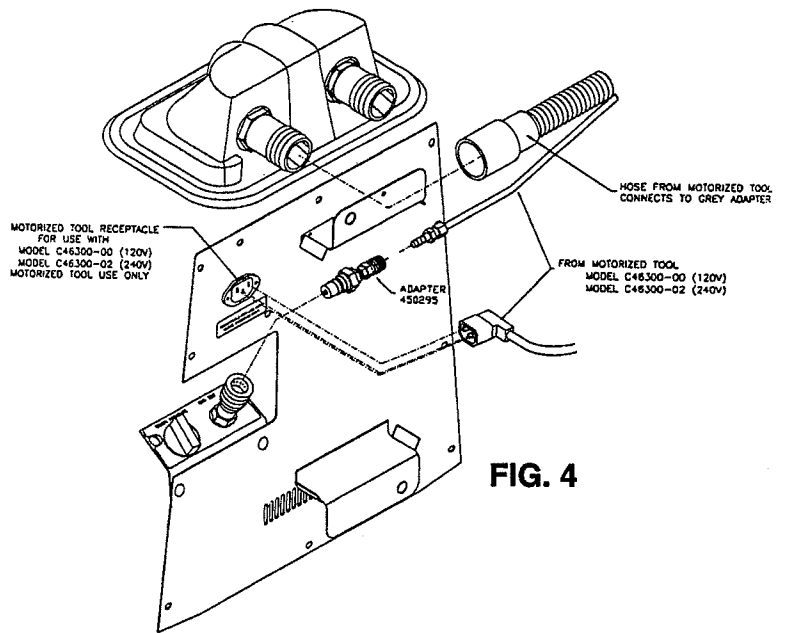

FIG. 4
3. Turn pump auxiliary switch to on, page 5, item 7. All other switches should be off.
4. See Fig. 4 for details on connecting ET motorized tool.